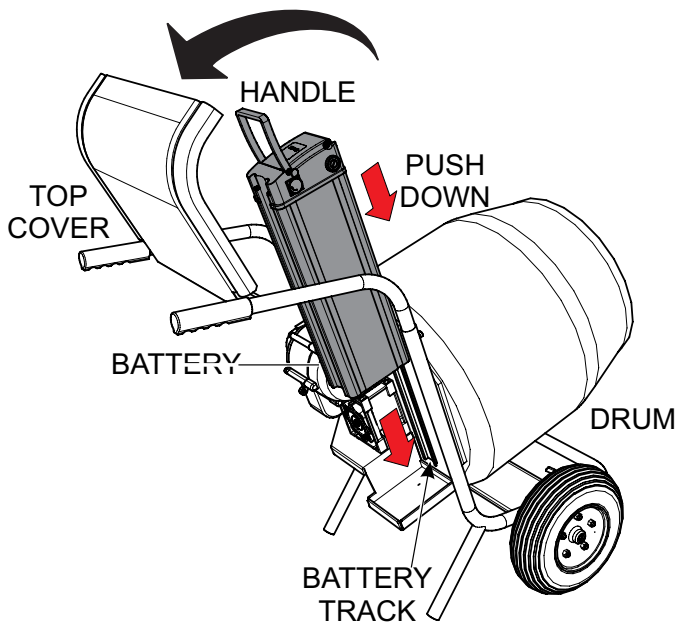

Figure 10. Battery Placement
4. As shown in Figure 10, grip the battery by its handle and align the battery rail with the battery track on the mixer frame.
5. Push down on the battery (Figure 10) until it is **fully seated**.